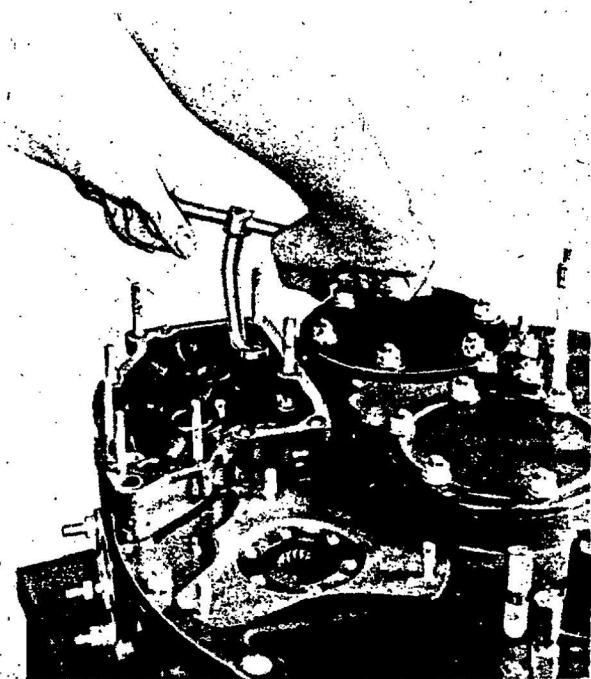

Figure 66—Loosening or Tightening Hidden Nut in Dual Accessory Drive Housing
(1) Make sure the dual accessory drive housing is accessible by removing all lines from the accessories driven by that unit. Remove the palnuts, nuts, and washers from the attaching studs on each of the two mounting pads and withdraw the accessories or cover plates with their gaskets. Remove the loose-fitting tongue drive adapters where utilized in the splined drive shafts. Break the lock wire and remove the special cap nuts and washers from the two studs extending from the supercharger rear housing cover through the upper left-hand side of the dual accessory drive housing. Remove the palnut, nut, and washer from the one remaining attaching stud on the right-hand side of the cover adjacent to the lower drive mounting pad.
(2) Remove the dual accessory drive cover and gasket by tapping on its sides with a rawhide mallet, being careful not to allow the spur gears to drop out of their bushings in the housing. Withdraw the upper and lower gears, after which the two intermediate gears may be removed, exposing the nuts holding the dual accessory drive housing to the super larger rear housing cover.
(3) Remove the castellated nuts and washers from the two studs extending from the supercharger rear housing cover through the central portion of the accessory drive housing wall section. Break the lock wire and remove the shouldered nuts and washers, located at the corners of the housing, using an offset box-socket wrench (Tool No. 800684) and handle. See figure 66. Remove the acorn nuts and copper washers from the studs which extend from the bottom of the accessory drive housing through the supercharger rear housing and cover parting flanges. Remove the dual accessory drive housing and gasket from the supercharger rear housing cover by tapping with a rawhide mallet.